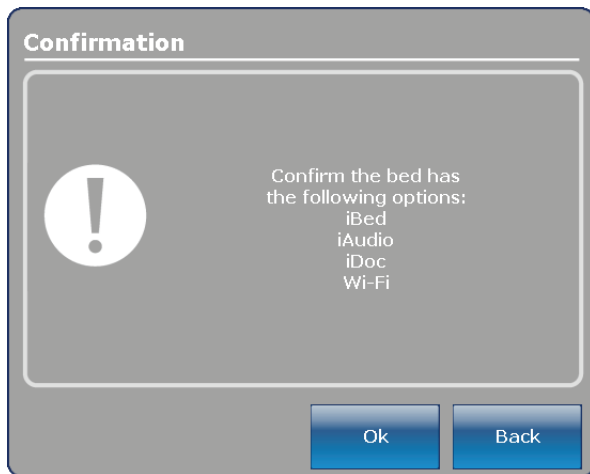

Figure 32 – Bed options confirmation screen
3. Press **Continue**. A confirmation screen displays to verify the options you selected (Figure 32).
4. The serial number will be saved and the serial number confirmation screen will be displayed. Press the **OK** button (Figure 32).